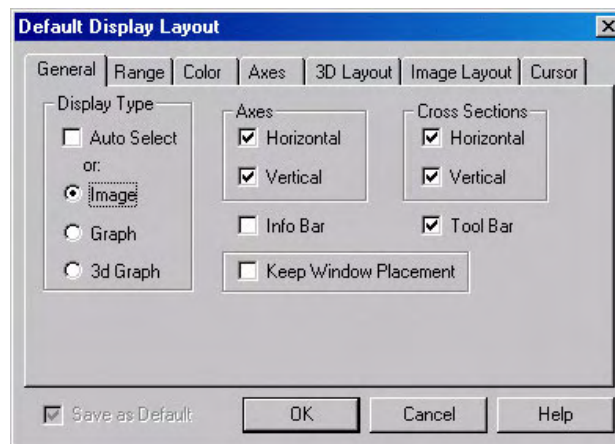

Figure 63. Display Layout dialog box
4. Select Layout on the Display menu. The Display Layout dialog box will open as shown in Figure 63.